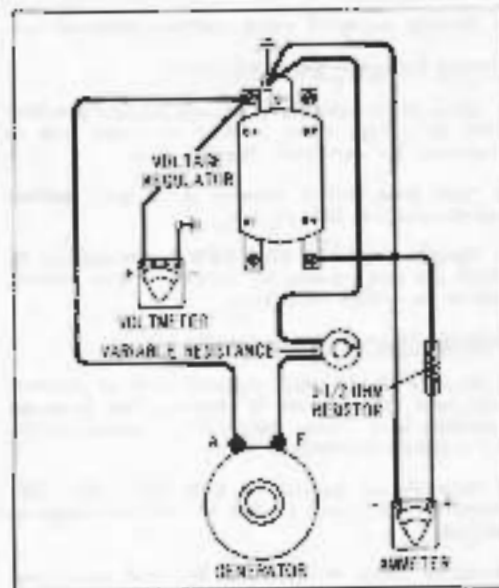

Figure 57-7.
A. TESTING GENERATING SYSTEM (FIG. 57-7)
B. TESTING CUTOFF RELAY CLOSING VOLTAGE - SAME CONNECTIONS ARE USED AS IN TEST A (FIG. 57-7)